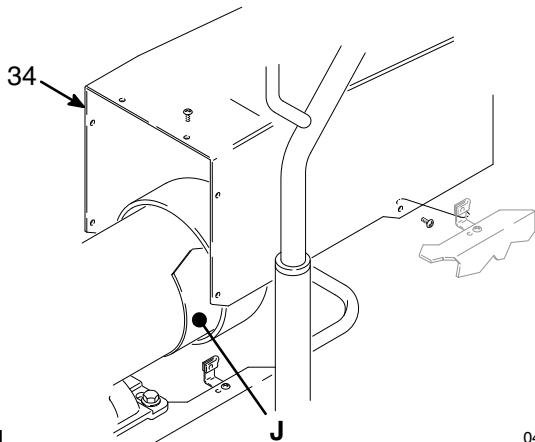

Fig. 11 04290
2. Remove the motor shield (34). Remove the inspection covers and gaskets (J) on each side of the motor. See Fig. 11.